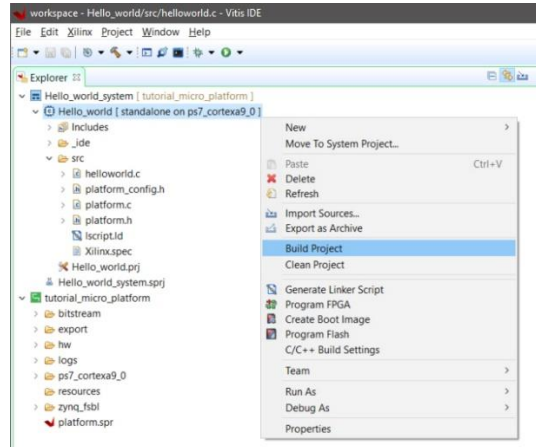

Figure 31
1. Right-click on the project folder and select **Build Project** (Figure 31)